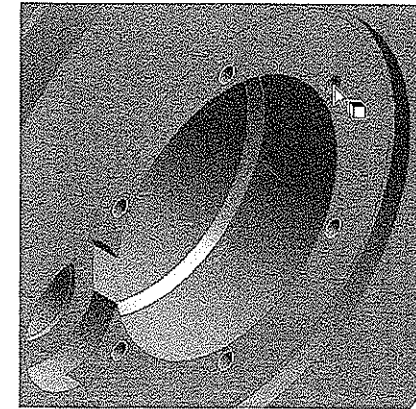

Figure 7-66 Holes to be selected
11. Now, select all the holes on the front face of the model by using the CTRL key, as shown in Figure 7-66.